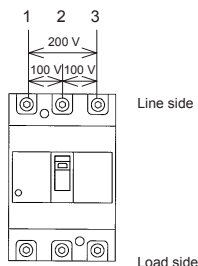

Figure 2. Connection method in a single-phase three-wire circuit
- If using MDU Breaker with a single-phase three-wire circuit, connect it as shown in Figure 2 below with the neutral line connected to the middle pole (2-phase).